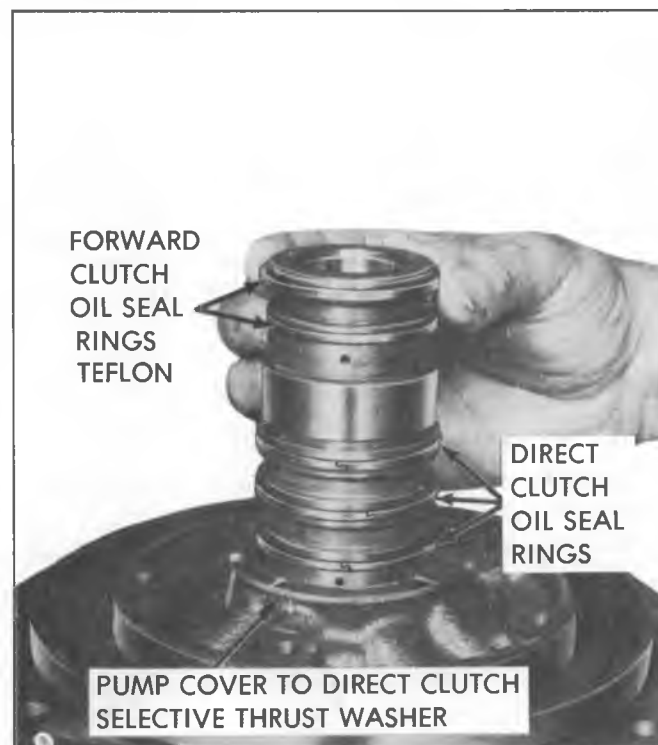

Fig. 59M--Pump Hub Oil Seal Rings
5. Remove two (2) forward clutch to pump hub hook type oil seal rings and three (3) direct clutch to pump hub hook type oil rings (fig. 59M).